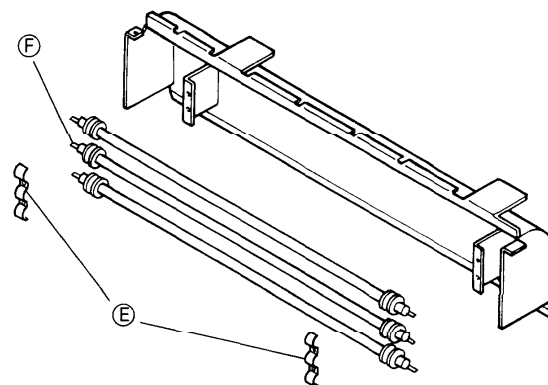

Fig. 5
- 2) Remove the thermostat mounting plate after removing the screws at the right and the left. Fig. 5.
- 2) Remove the wiring connection screws on both sides of the heater (F).
- 3) Remove the screws of the heater mounting plate (E), and separate the installation fittings from the heater. Fig. 5.